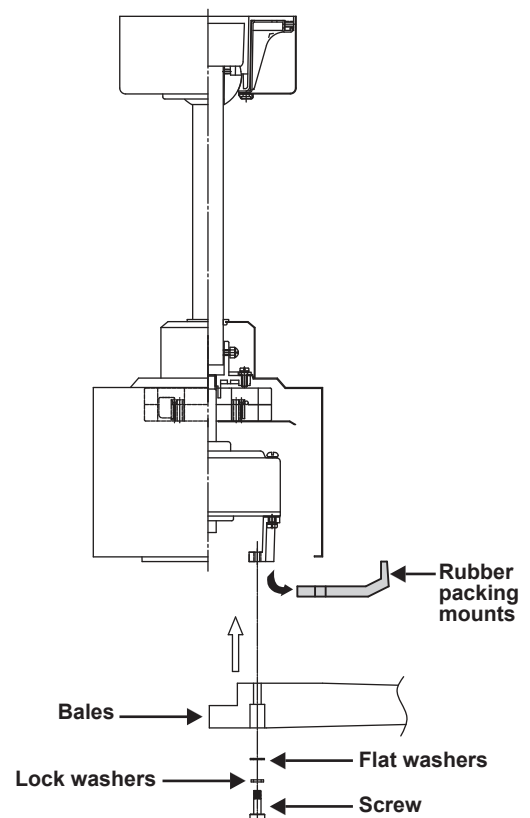

Figure 11
1. Fasten blade to motor using the flat washers, lock washers and screws supplied. (Fig. 11)